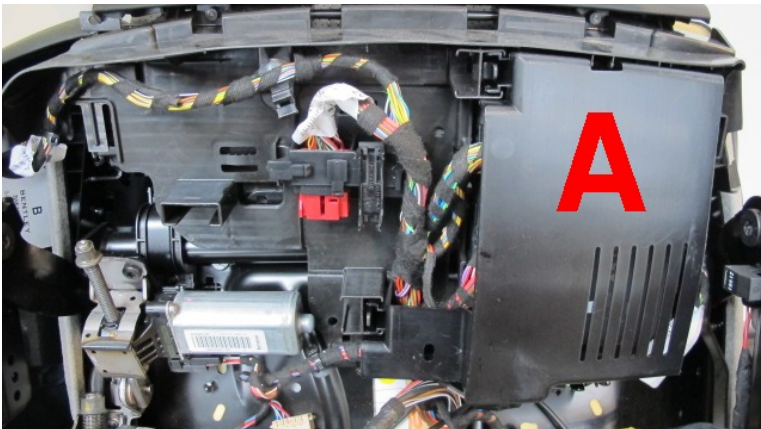

Figure 26
3. Referring to Figure 26, locate the seat control module cover (Point A) - Remove the cover and discard - Refer to workshop manual Rep.Gr 72 – To remove and fit